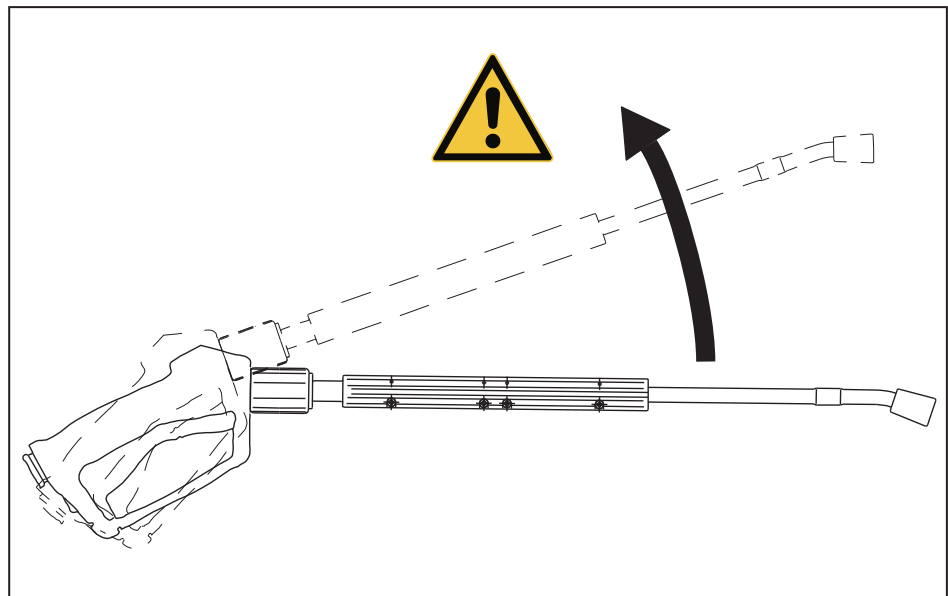

Fig. 6 - 2 Recoil force when switching on the trigger gun
- ▶ Set the On/Off Rotary Switch (see 2, Fig. 6 - 1) on the front door to On.
After activation of the trigger gun the emerging water jet exerts a jerky recoil force (see also Fig. 6 - 2).